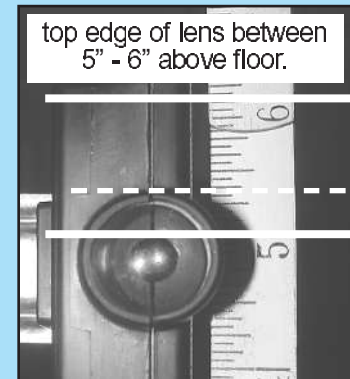

FIG. 3-9 Check lens height.
- Insure that tops of lenses are between 5"–6" above the floor (Fig. 3-9). The brackets are flexible and can be adjusted slightly if needed.